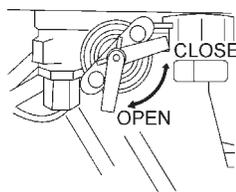

Figure 8. Open Fuel Cock
1. Open the fuel cock (Figure 8).
- Close the fuel cock (Figure 8).